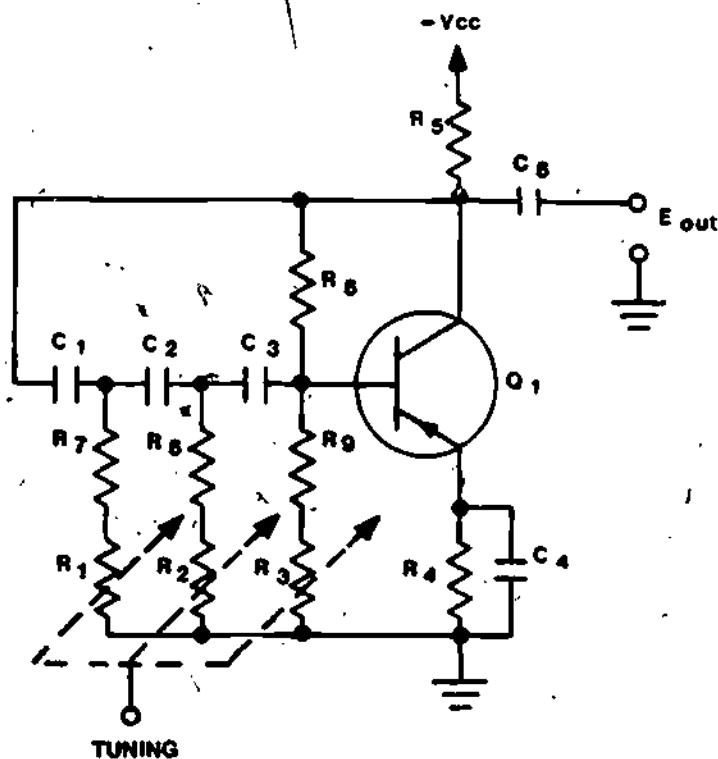

Figure 8
14. The output frequency of an RC oscillator may be changed by changing the resistor or capacitor values of the individual networks which make up the phase shift part of the oscillator. The schematic shown in Figure 8 is that of a variable frequency RC phase shift oscillator.